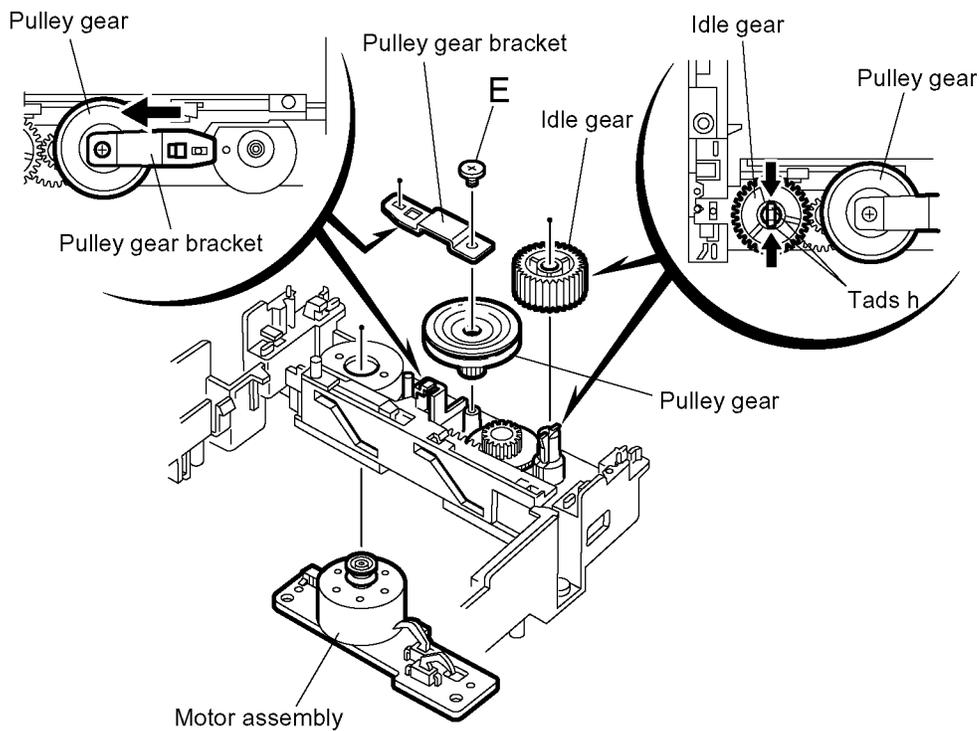

Fig.9
2.1.5 How to remove a power supply board (See Figure 9 and 5)
3.1.6 Removing the Idle gear/pulley gear/middle gear/slitecam (See Fig.9 to 11)